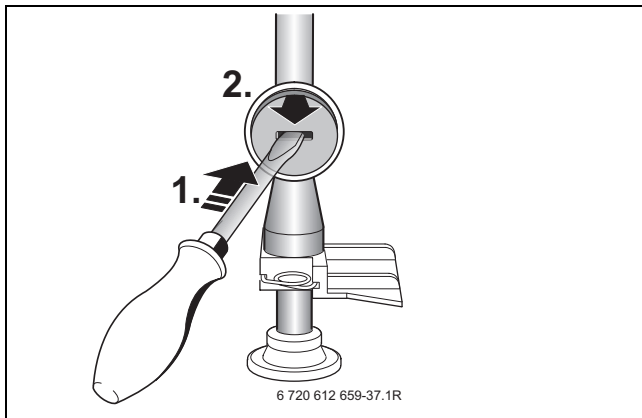

Fig. 49
- ▶ Remove the gas throttle seat with a screw driver as shown in Fig. 49.